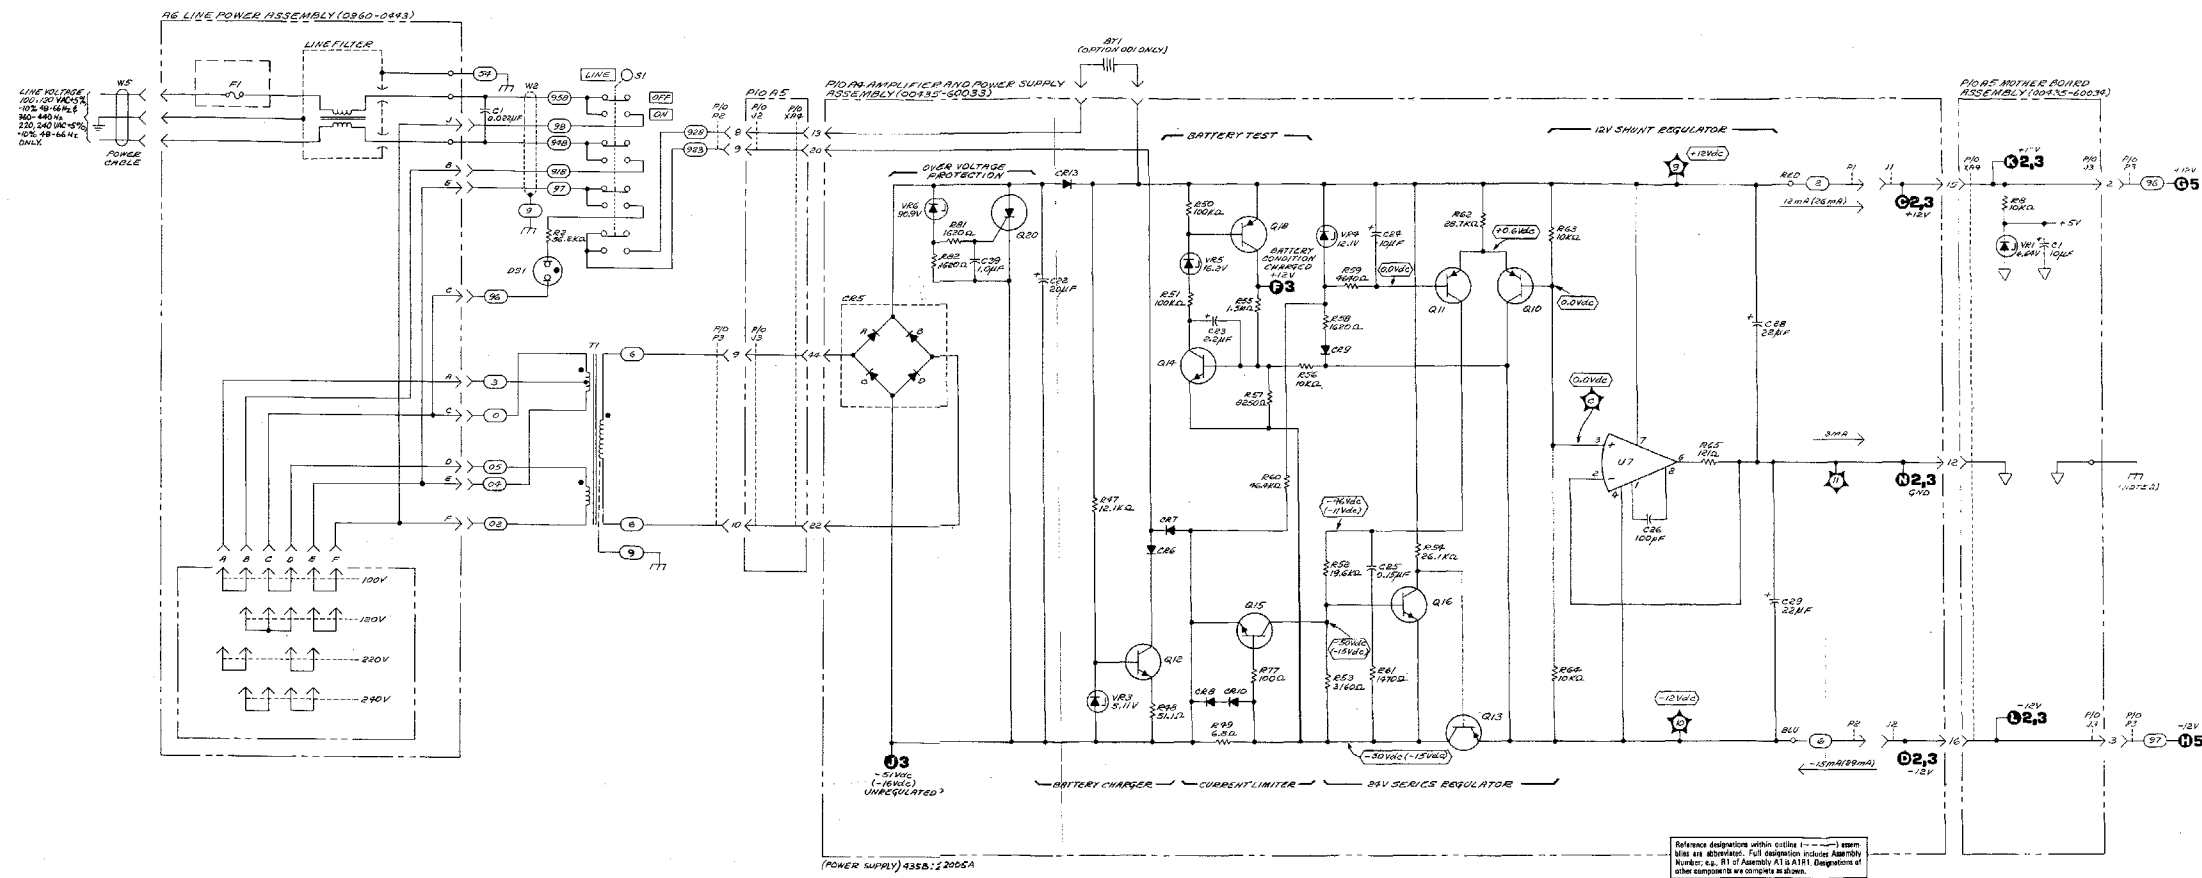

Figure 8-15. P/O A4 Assembly (Power Supply) Schematic
1. USE FIGURE 8-15 FOR MECHANICAL DIMENSIONS AND LOCATIONS.